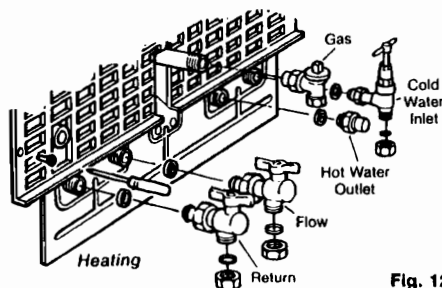

Fig. 12
5.3.4 Loosely fit (hand tight) the valves and fittings using the washers supplied (Fig 12)
- 5.6.1** Figs. 12 and 16 show the locations of the fittings.